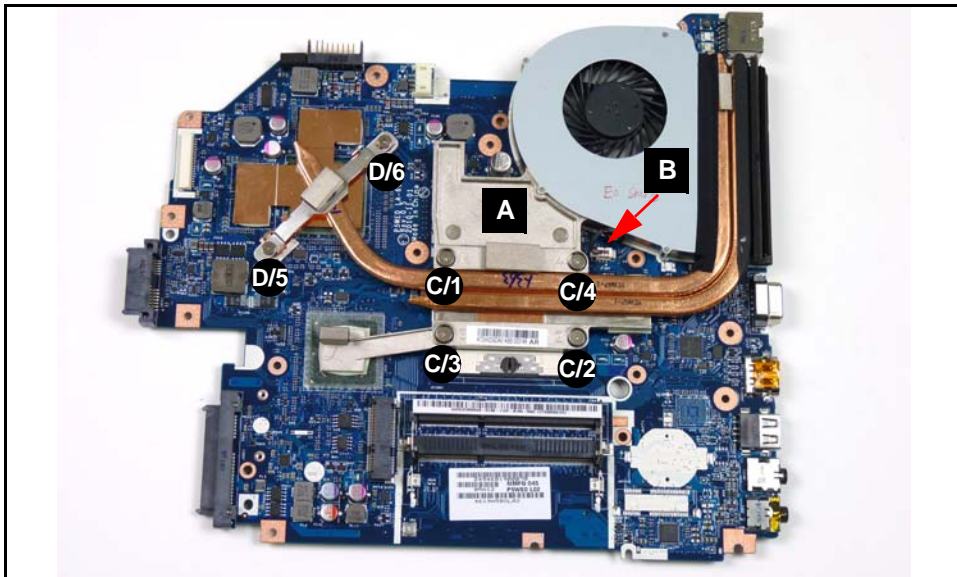

Figure 3-47. Thermal Module Removal
1. Locate thermal module (A) on mainboard (Figure 3-47).
4. Install and secure four (4) screws (C/1 - C/4) and two (2) screws (D/5 - D/6), in numerical order from one (1) to six (6), to mainboard. Refer to Figure 3-47.
5. Install module cable (B) to mainboard connector.